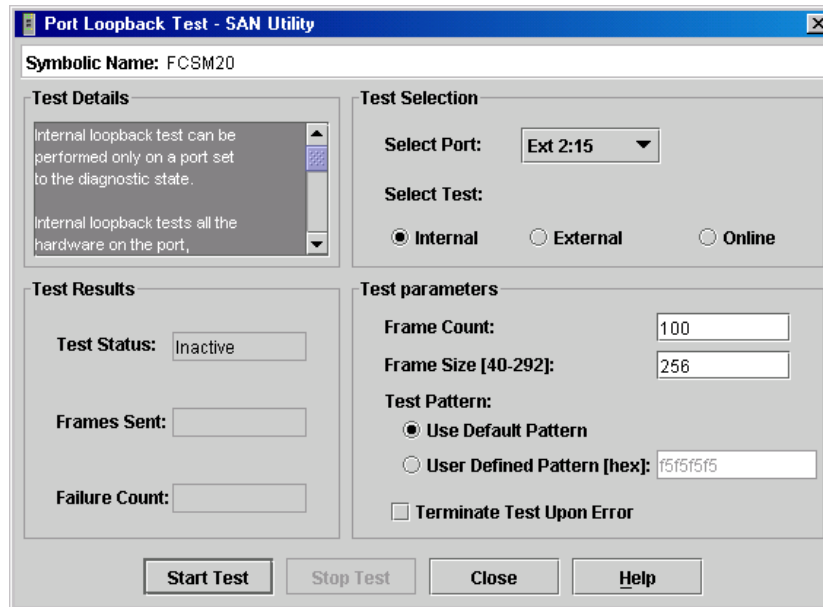

Figure 4-2. Port Loopback Test Window
2. Open the Port menu and select **Port Loopback Test** to open the Port Loopback Test window shown in Figure 4-2.